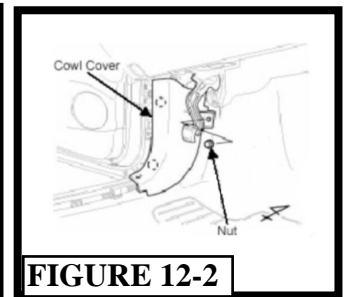

FIGURE 12-2
- (c). Remove cowl cover after removing nut. (FIGURE 12-2)